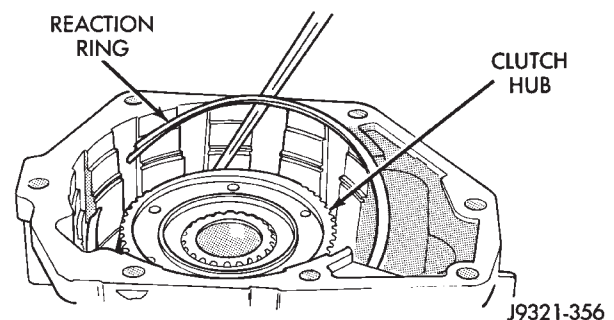

Fig. 255 Overdrive Clutch Reaction Snap Ring Removal/Installation
- (2) Remove overdrive clutch reaction snap ring (Fig. 255). Note that snap ring is located in same groove as wave spring.